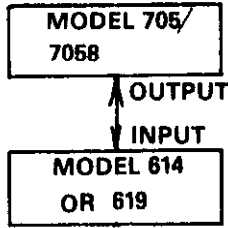

Figure 4. Test Set Up For Offset Current Test
3. Offset Current Test (See Figure 4).